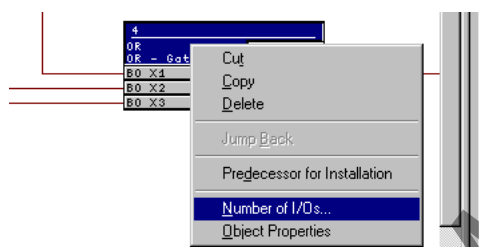

Figure 5-32 Example of an OR gate: module menu
The default run-time sequence is determined by the sequence of the insertion of the logic modules. You may redefine the run-time sequence by pressing <CTRL> – <F11> on the PC keyboard. Please refer to the CFC manual. The necessary function modules (FM) are contained in a library located to the right of the configuration chart. The module also indicates to which of the four run-time levels (MW_BEARB, PLC1_BEARB, PLC_BEARB, SFS_BEARB) it is assigned. The modules possess at least one input and one output. In addition to these inputs and outputs, which are displayed on the configuration sheet, a module may have additional inputs. The additional inputs can be made visible by selecting the module title block, pressing the *right* mouse button, selecting the menu option **Number Of I/Os...** (see Figure 5-32), and then increasing the number.